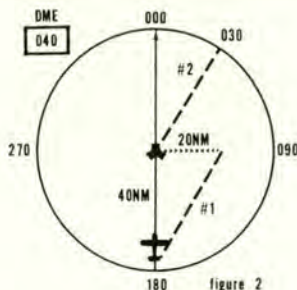

figure 2
Now, look at figure 2 and we will see how this works using the same problem as above. The greater of the distances is your range (40 miles), so the compass card will be 40 miles in radius. Your aircraft position is at the tail of the bearing pointer (090) and go out that line 20 miles from the station (halfway from center). Line 1 represents your flight path to the DME fix. To find what the no-wind heading will be, you simply slide this line parallel so that it passes through the center of the compass card (line Nr 2). You then read your no-wind heading to the fix where line Nr 2 intersects the edge of the compass card (030°).